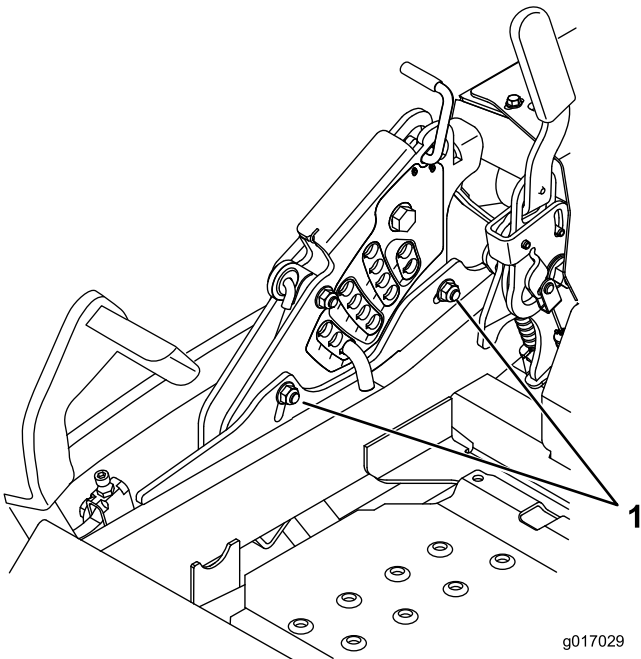

Figure 90
- To adjust the single point system, loosen the two bolts at the bottom of the height of cut plate. Refer to Figure 90.
- Tighten the two bolts at the bottom of the height of cut plate (Figure 90). Torque to 27-33 ft-lb (37-45 N-m).